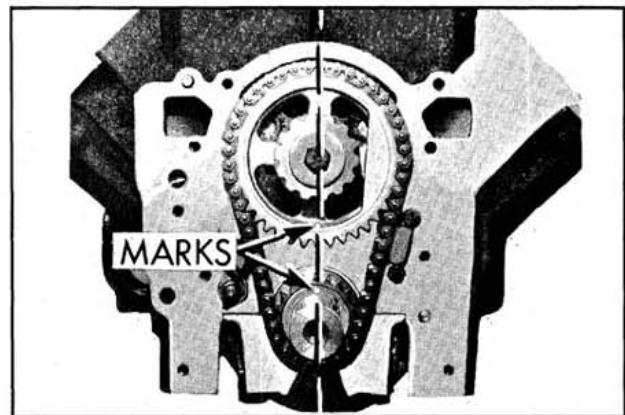

Fig. 3-21 Timing Chain and Sprockets
1. With timing chain cover removed, temporarily install harmonic balancer bolt and washer in end of crankshaft. Turn crankshaft so sprockets are positioned as shown in Fig. 3-21. Doing so will make it easier to reinstall parts. Remove harmonic balancer bolt and washer using a sharp rap on the wrench handle to start the bolt out without changing position of sprockets.
2. Turn camshaft so with sprocket temporarily installed, timing mark is straight down. See Fig. 3-21. Remove sprocket.
3. Assemble timing chain on sprockets and slide the sprocket and chain assembly on the shafts with the timing marks in their closest together position and in line with the sprocket hubs. (Fig. 3-21)